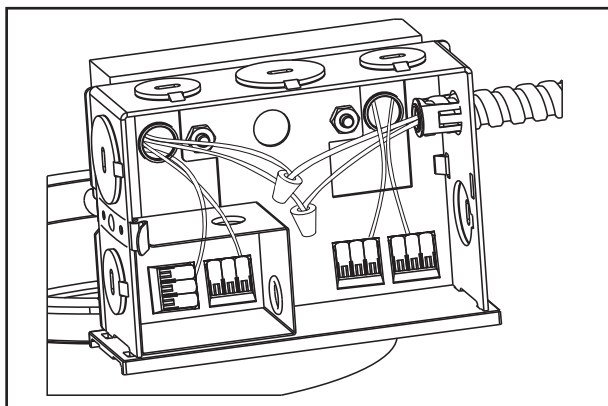

Figure 14
2. Remove one of the junction box covers. Connect supply lead wires to lead wires of driver as per Wiring Diagram and in accordance with your local electrical code(s) or N.E.C. (Figure 14.).
2. Remove junction box cover (Figure 14.).